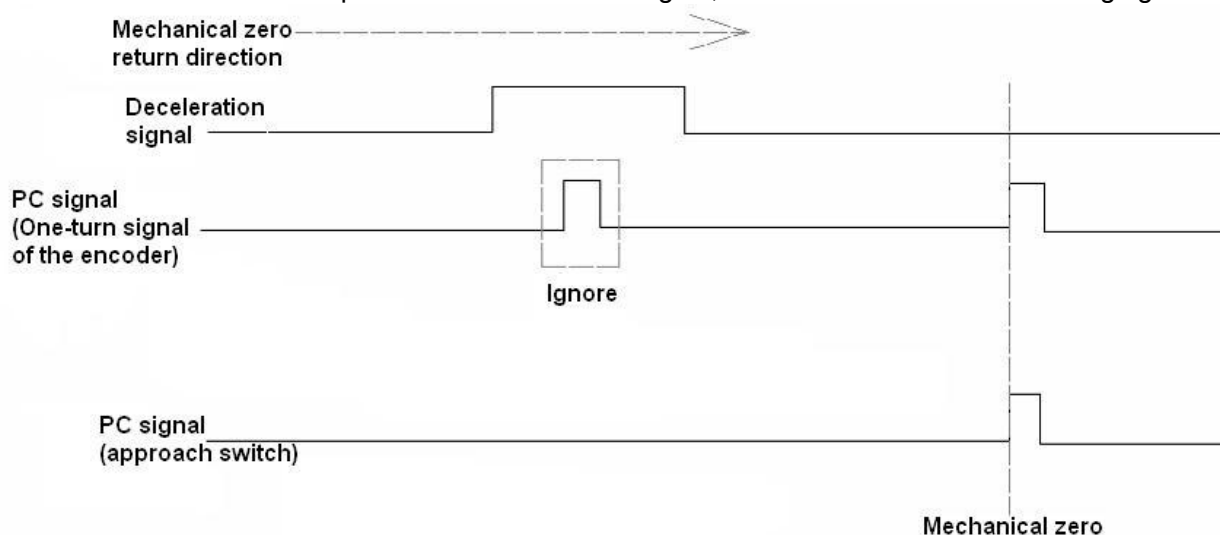

Fig. 2-8 PC signal waveform
- The user should provide the wave of PC signal, which is shown as the following figure 2-8: